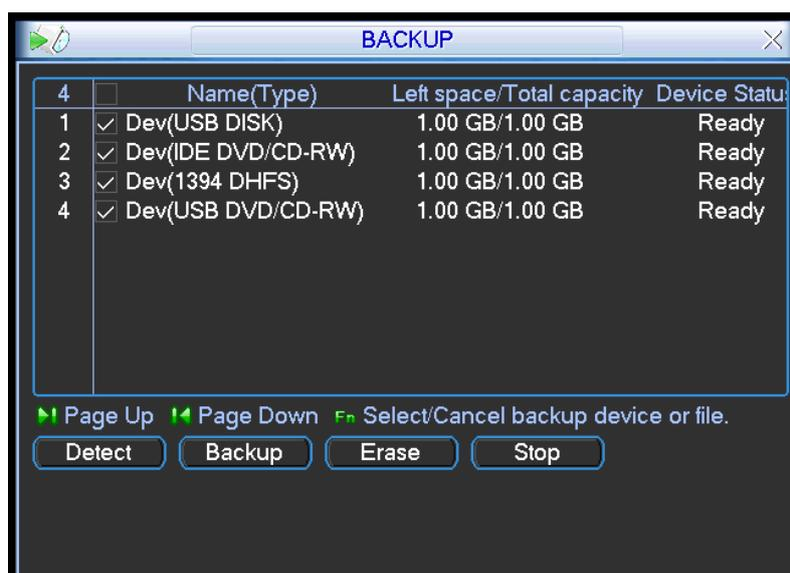

Figure 4-25
- **PTZ activation:** Here you can set PTZ movement when alarm occurs. Such as go to preset, tour & pattern when there is an alarm. Click “select” button, you can see an interface is shown as in Figure 4-25.
Here is for you to view devices information. See Figure 4-25.